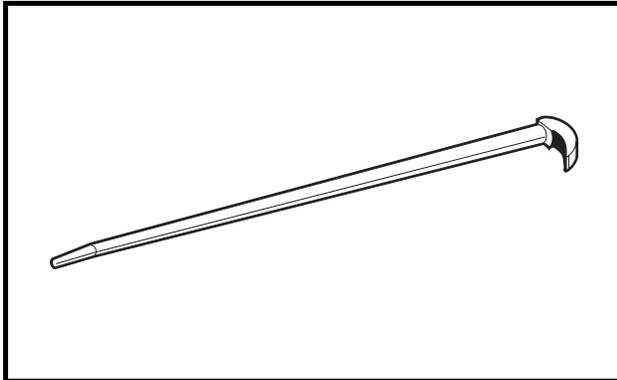
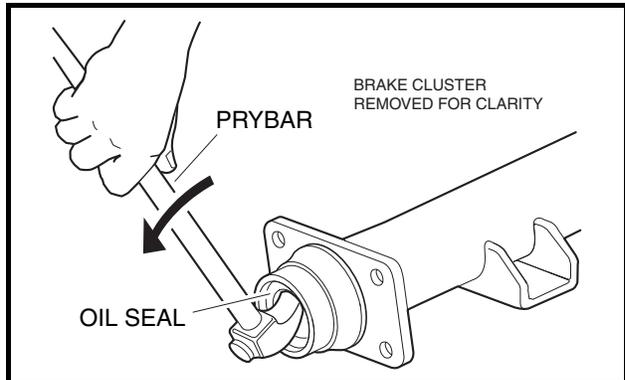

Figure 16-4 Rolling Head Prybar
Figure 16-5 Seal Lip
- Position a 16-inch (40 cm) rolling head prybar (**Figure 16-4, Page 16-4**) under the inside lip of the seal and pull the oil seal out (**Figure 16-5, Page 16-4**). See following **CAUTION**.